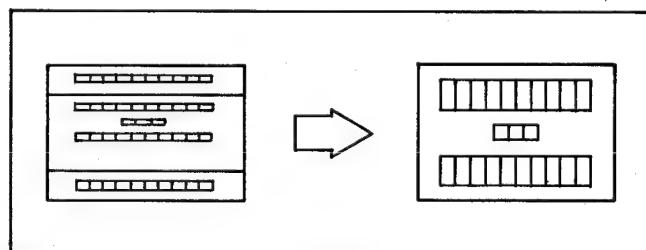

Fig. 40
(2) FOCUS
(3) HORIZONTAL AND VERTICAL CENTERING ADJUSTMENT
(4) VERTICAL AMPLITUDE ADJUSTMENT
- Adjust the vertical amplitude control VR625 as shown in Fig. 40.